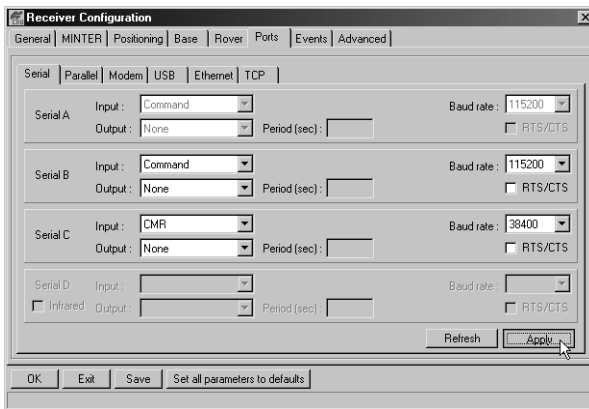

Figure 3-12. Rover Configuration – Ports
6. Click the *Ports* tab and set the following parameters for Serial C (Figure 3-12 on page 3-16):